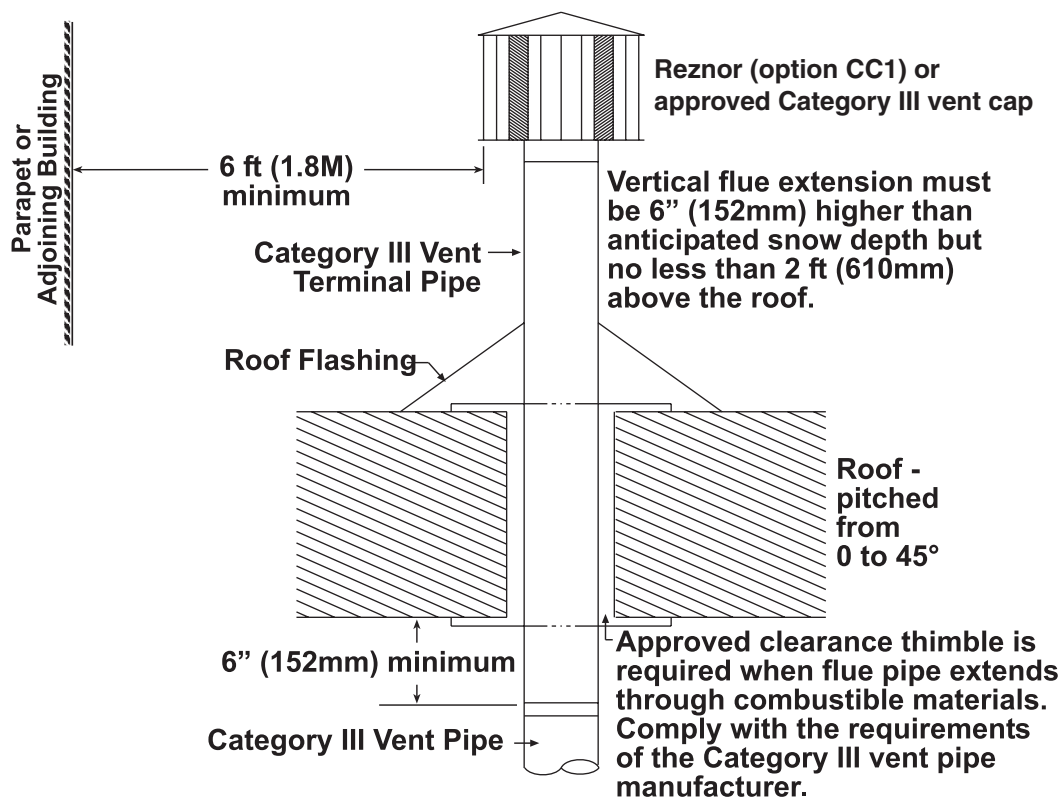

Figure 14. Vertical Vent Terminal (Residential Installations)
- c. Refer to instructions shown in Figure 14 to install vertical vent terminal.